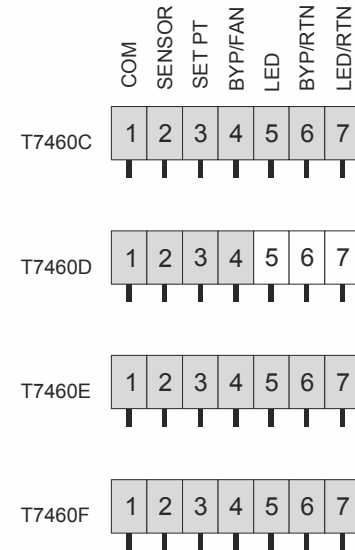

Fig. 7. Wiring diagram for T7460C,D,E,F Wall Modules
3. Verify jumper setting with Fig. 8 and wall module wiring with Fig. 6 and Fig. 7.